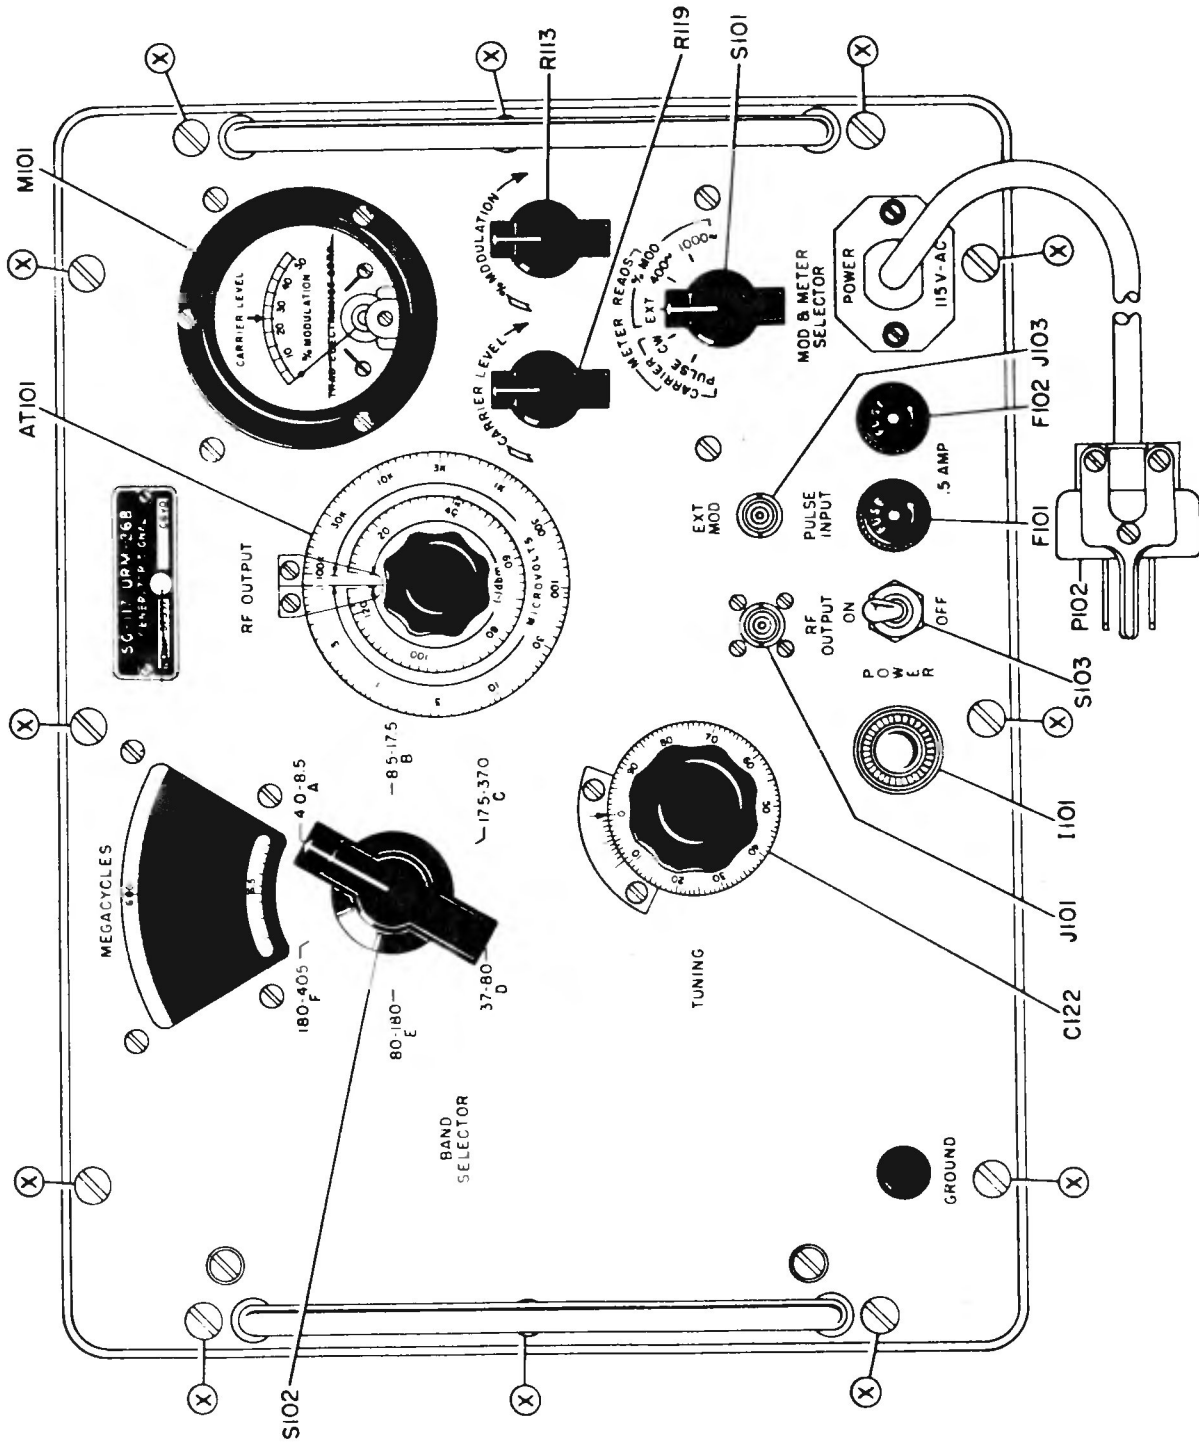

Figure 6-1. Front Panel View for Removal of RF Signal Generator SG-117/URM-26B from Case.
(See figure 6-1.)
(1) Loosen the twelve captive screws (marked “X”; see figure 6-1) located around the outer edge of the front panel.
(2) Gently pull the signal generator chassis from the case, using the lifting handles provided on the front panel. The signal generator can be completely removed because the cable connecting it with the power supply is purposely long enough to enable the power supply to remain in the case while the signal generator is out.